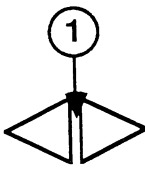

FIGURE 10
4. Locate the two jumper pads marked SD (Figure 8, #2). Apply a little bit of solder to the iron. Then, with the tip touching the jumper pads, one pair of pads at a time, apply the new solder to the location indicated in Figure 10, #1.